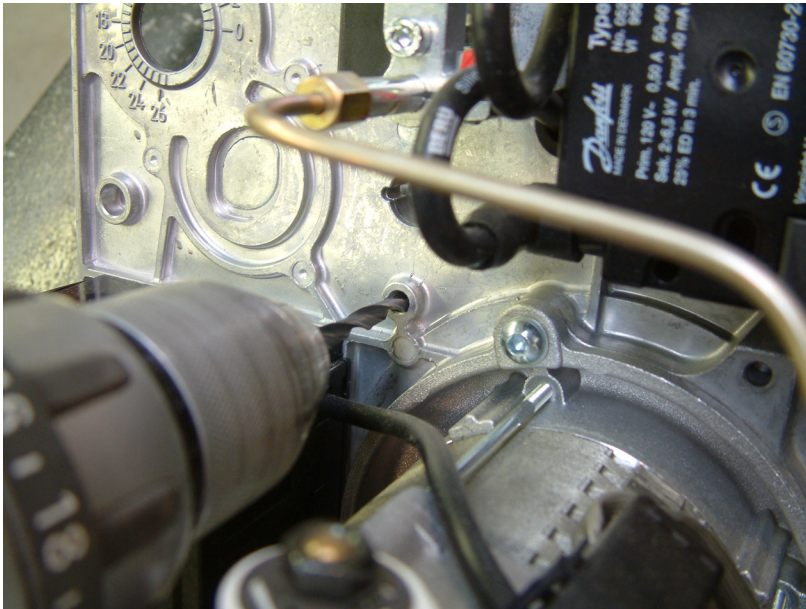

Fig. 9
18. Using 5mm. drill bit (or 13/64") drill hole, Fig.9.